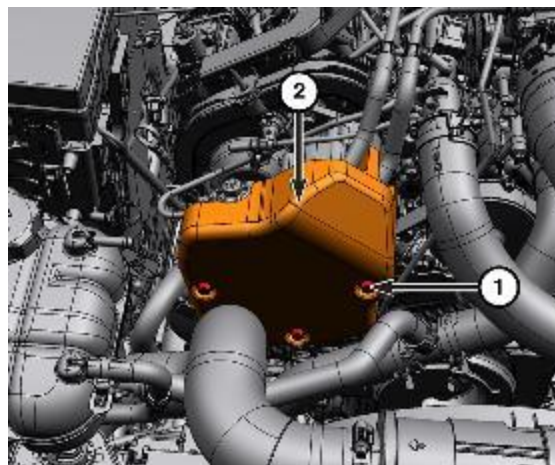

Figure 4 - Cover Screws
7. Remove the screws (1) that secure the cover (2) for the high-pressure fuel pump (Figure 4).